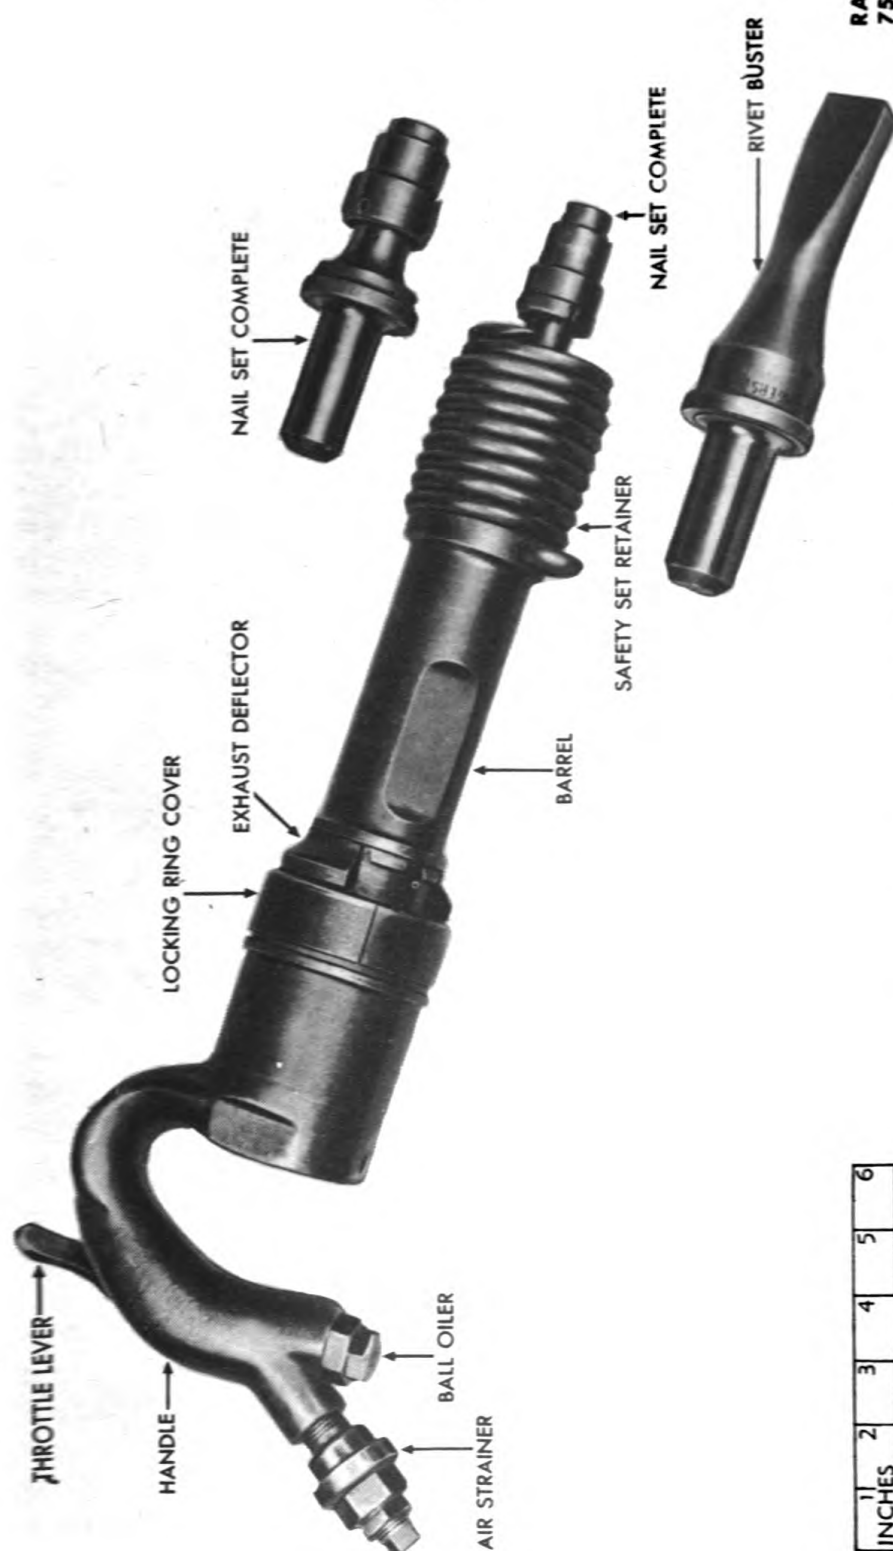

Figure 44 — Pneumatic Nail Driver
9. DESCRIPTION AND FUNCTIONING (fig. 44).
b. Setting Up for Operation (figs. 44 and 46).
- (1) Slip piston into barrel from front end.
- (2) Place set in nozzle hole of barrel.
- (3) Screw safety set retainer on barrel to hold set in place. Drive curled up end of retainer into locking notch with a soft hammer.
- (4) Lubricate tool (par. 14 b).
- (5) Connect air hose from compressor to air inlet on handle.